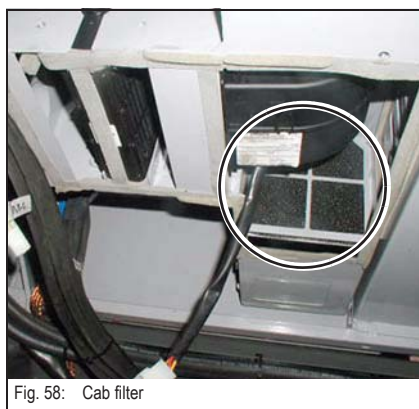

Fig. 58: Cab filter
- ☞ *You can now access the cab filter **fig. 58***